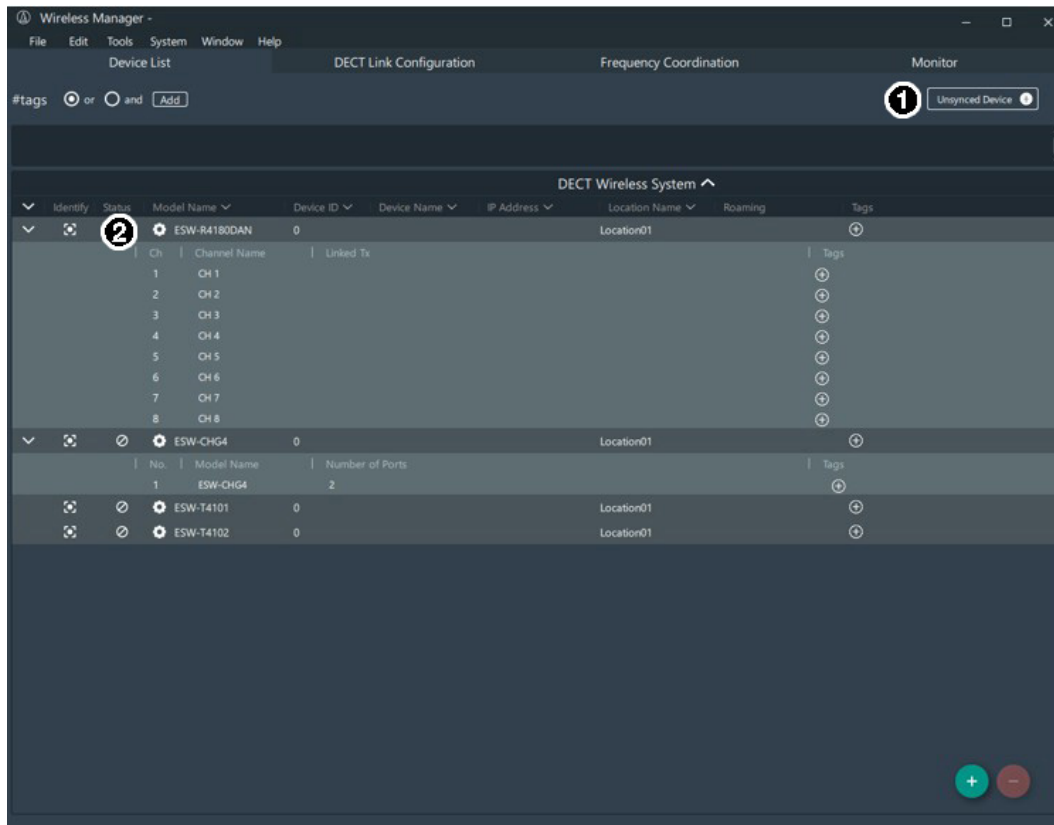
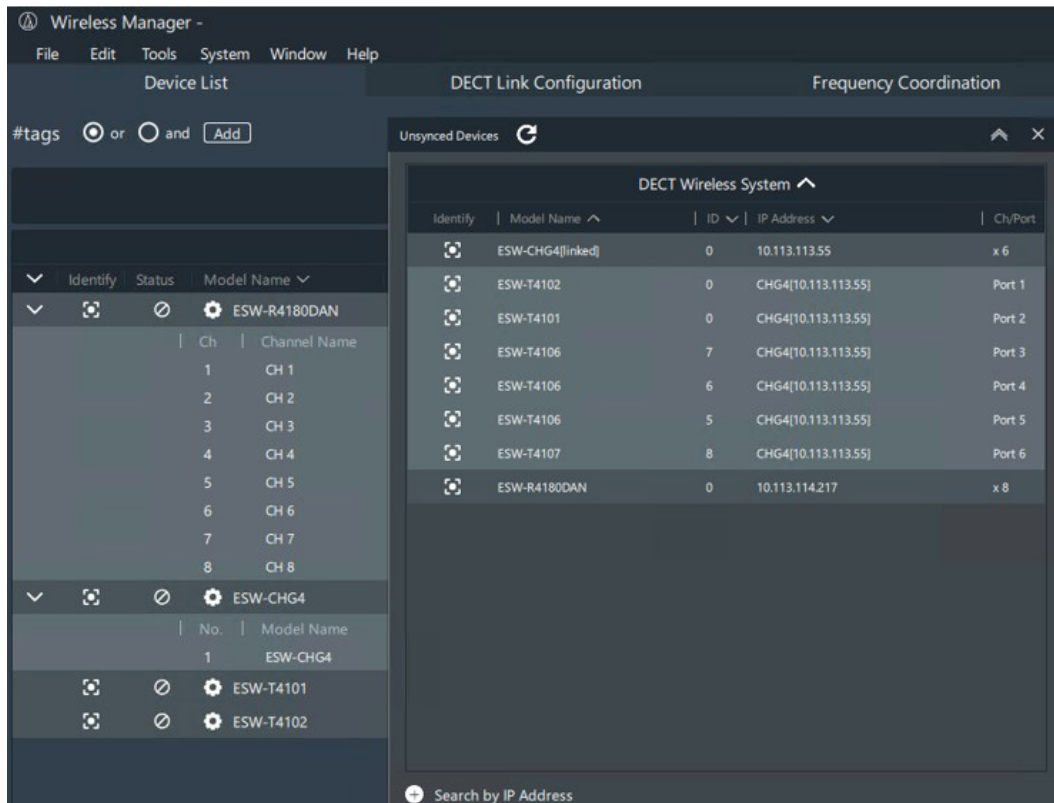

Figure 14. Wireless Manager Screen with the Open WMPROJ File
Figure 15. Wireless Manager Unsynced Devices Window
7. Open the provided configuration file — WMPROJ file (see figure 14 on page 7).
8. Click the **Unsynced Devices** button (see figure 14, 1). The Unsynced Devices window opens (see figure 15).